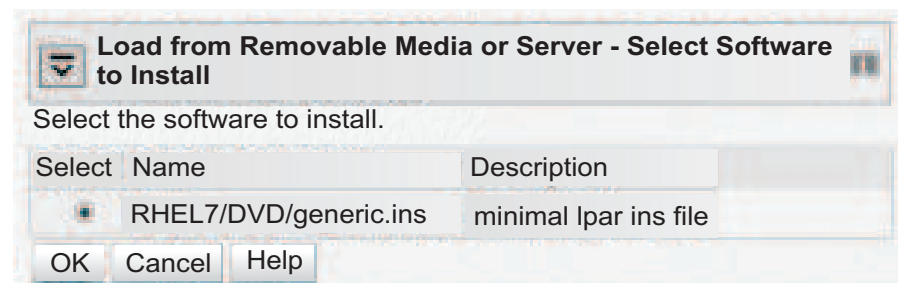

Figure 30. Select Software to Install panel
5. Click **Continue** to display the Select Software to Install panel (Figure 30).